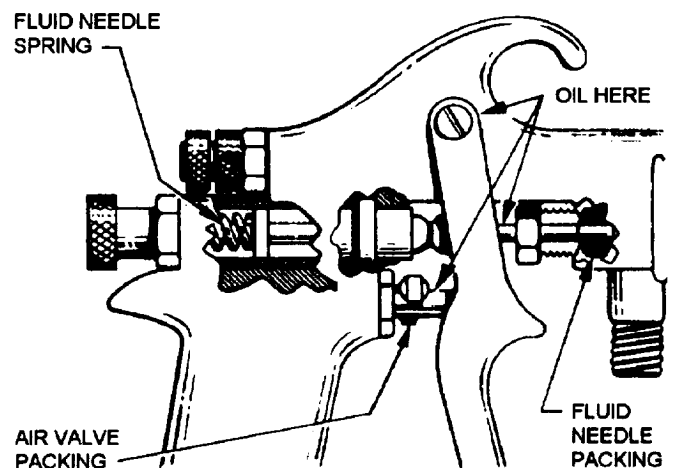

Figure 1-27.—Lubrication points of a spray gun.
**Spray Gun Lubrication.**— A spray gun needs occasional lubrication. To do this, remove the fluid needle packing and soften it with oil. Coat the fluid needle spring with grease or petrolatum. Figure 1-27 shows the location of these parts and the oil hole where you place a few drops of light oil.